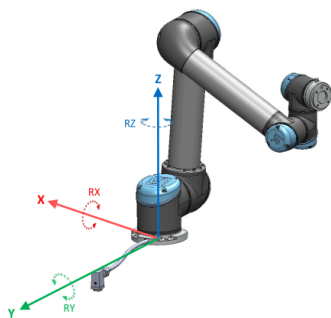

Figure 13.1: Base feature
- *Base* feature: located with origin in the centre of the robot base (see figure 13.1)